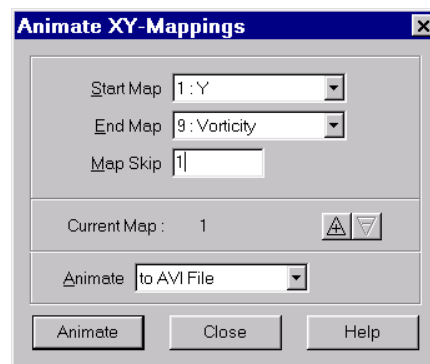

Figure 30-2. The **Animate XY-Mappings** dialog.
1. From the Tools menu, choose **Animate**, then choose **XY-Mappings**. The **Animate XY Mappings** dialog appears, as shown in Figure 30-2.